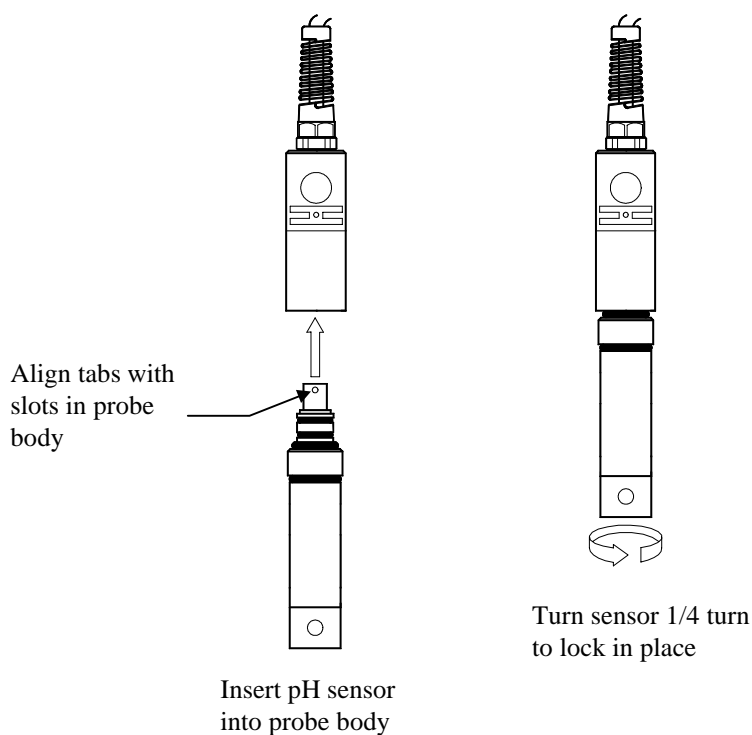

Figure 3
2. Insert the pH sensor into the probe body (be sure to align the tabs on the sensor with the slots in the probe body) and twist 1/4 turn to lock in place. See *Figure 3*.